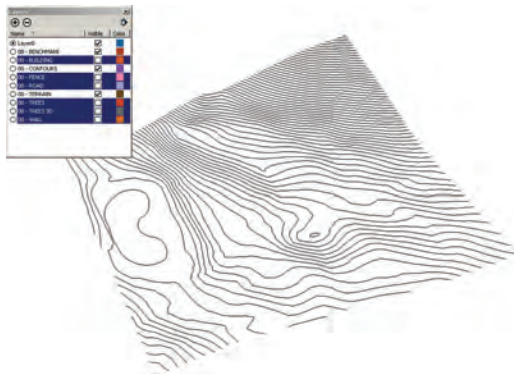

Fig. 15-5: Turn off all the linework except the terrain.
2. Turn off all the linework except the terrain (Fig. 15-5). This will make it easier to work. You can turn the linework back on when you need to work on the lines specifically. (To learn about organizing CAD files prior to importing them into SketchUp, see Part 4.)